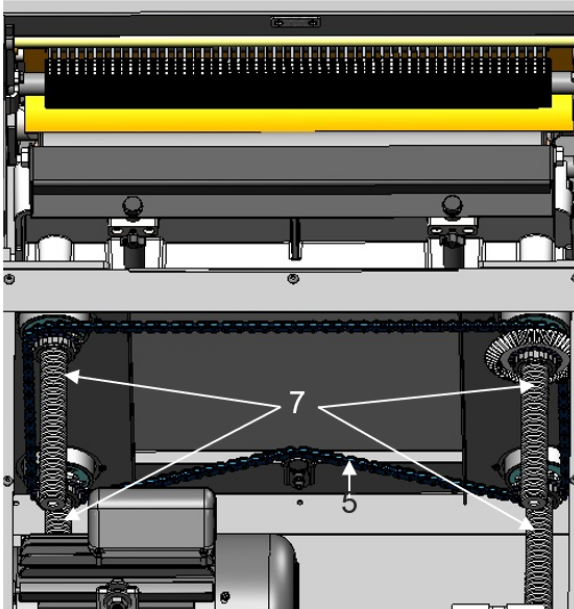

FIGURE 26: LUBRICATION
- Lubricate the four lead screws regularly. (Fig. 26).